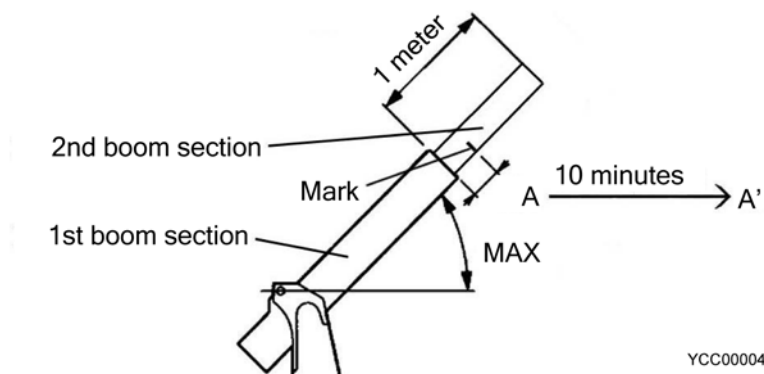

Fig. 3-17 Inspection procedures of natural descent
3. Apply the mark on the 2nd boom section, and then measure the **Dimension A** as shown in Fig. 3-17.